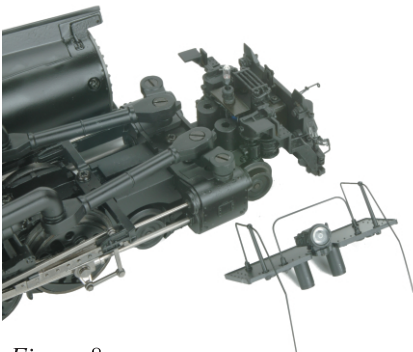

Figure 8
- 2) Remove platform on pilot to gain access to the headlight bulb (Fig. 8).